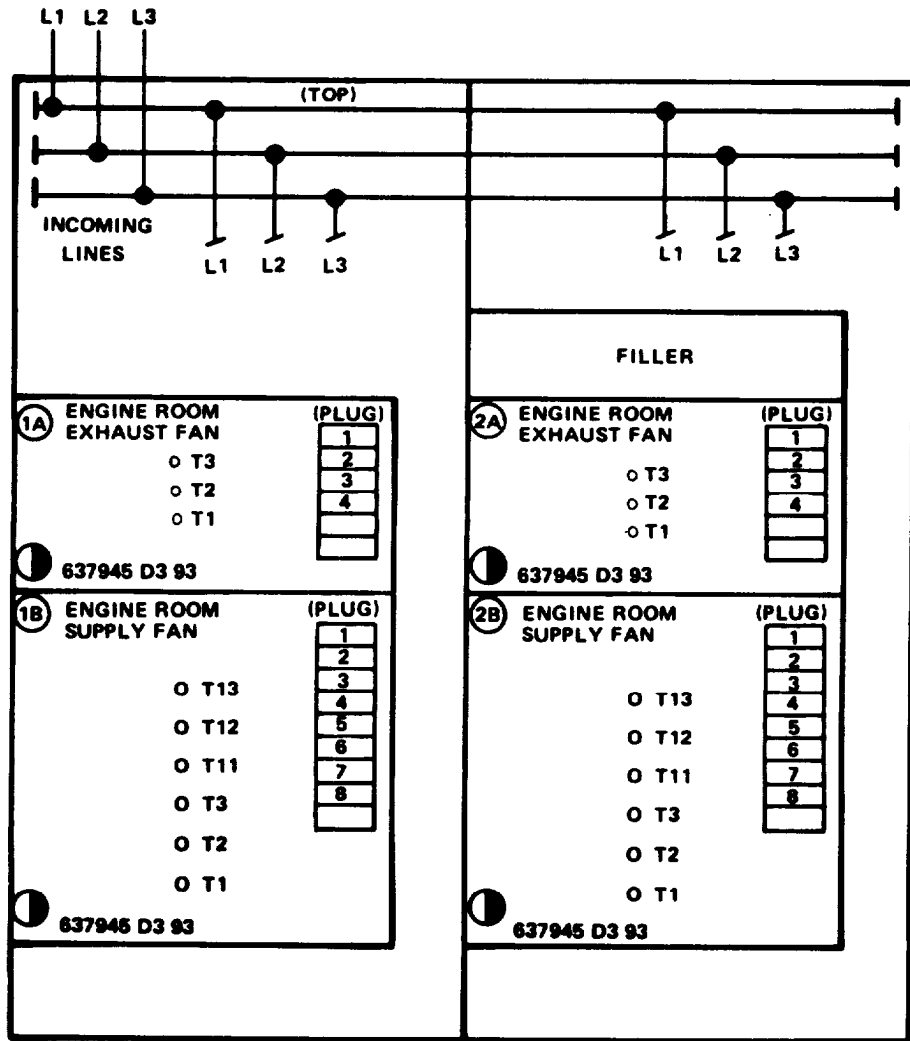

FIGURE 2-199. Motor Control Center Engine Room Vent.
**2-247. Replace/Repair Motor Control Center, Engine Room Vent. (FIGURE 2-199)**